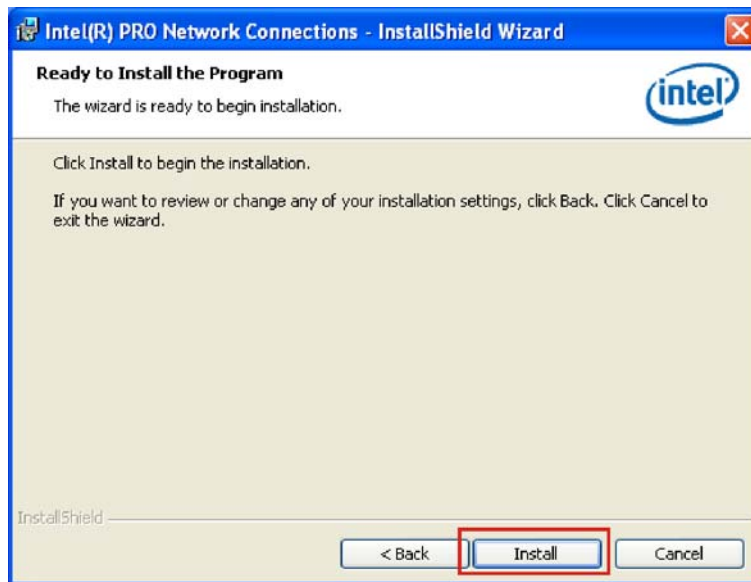

Figure 7-16: LAN Driver Installation Ready Window
Step 9: The Ready to Install the Program window in **Figure 7-16** appears.
Step 10: Click **INSTALL** in **Figure 7-16**.